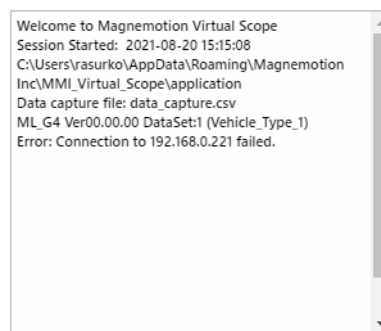

Figure 2-12: Connection Error, No Connection
*If no connection is made to the HLC specified, a diagnostic message that describes the error is displayed in the **Information Panel** above the **Run Controls** section as shown in Figure 2-12.*